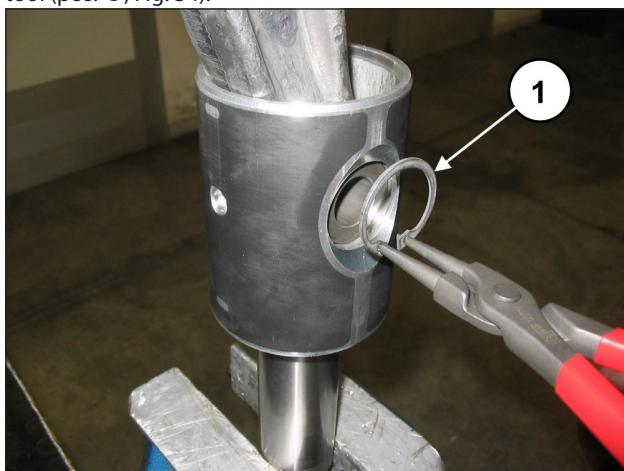

Fig. 34
Remove the two spindle locking Seeger rings using a special tool (pos. ①, Fig. 34).
Insert the con-rod in the piston guide (pos. ①, Fig. 36) and then insert the spindle (pos. ①, Fig. 35). Fit on the two Seeger rings with the special tool (pos. ①, Fig. 34).